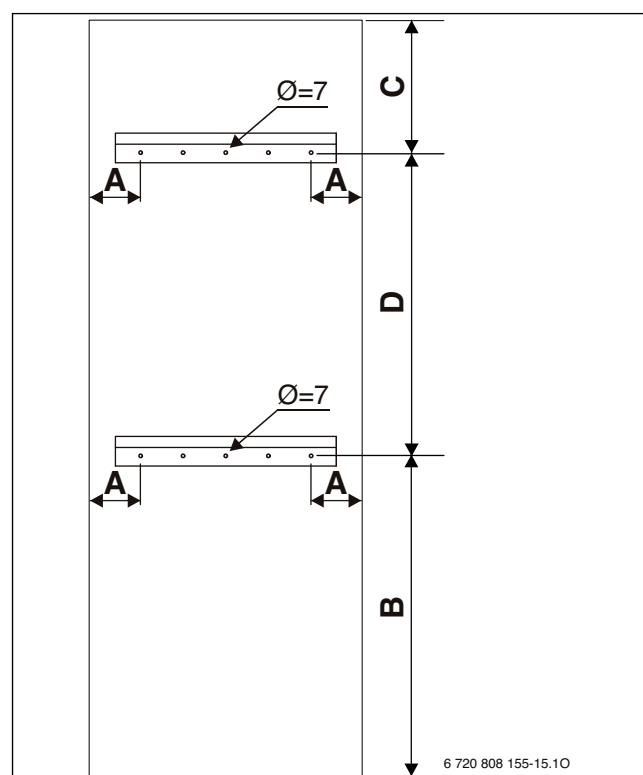

Fig. 31 THR...M75V
- Drill holes for mounting bracket. Observe the following dimensions (→ Fig. 31, 30 and Tab. 27):